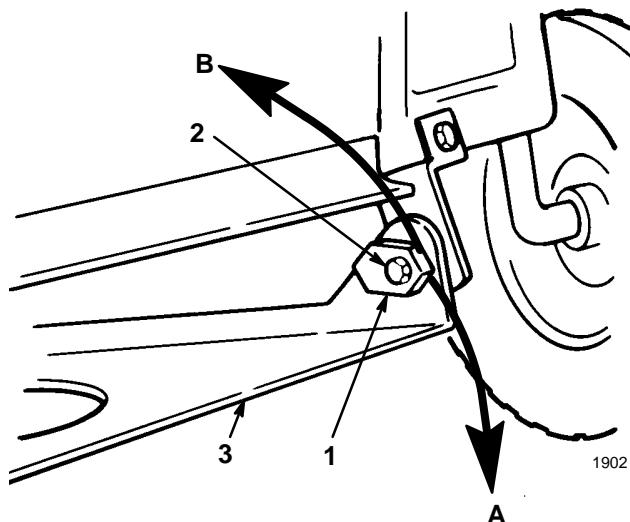

Figure 46
8. Adjust the front-to-rear slope by rotating the special slope adjusting nuts on both sides of the mower pivot mount (Fig. 46).
9. Using a 1" wrench or socket slowly rotate the left side slope adjusting nut down to raise the front of the mower and up to lower it (Fig. 46). Rotate the slope adjusting nut until the front of the mower is $0"$ to $1/4"$ (0 mm to 6.5 mm) lower than the rear of the mower.